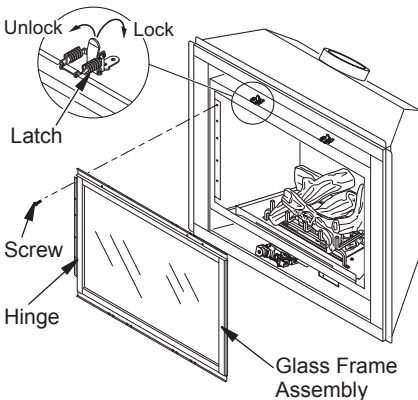

Figure 38 - Removing/Replacing Glass Door
2. Lift up on latches to unlock. There are two on top of firebox and two below firebox that hold glass door in place (see Figure 38).
3. While holding glass door to prevent it from falling and causing injury, remove five screws from hinge located on left side of door frame assembly (see Figure 38).
5. Close glass door frame. Lock latches by placing bar under tab on door and pushing down and back on latch (see Figure 38).